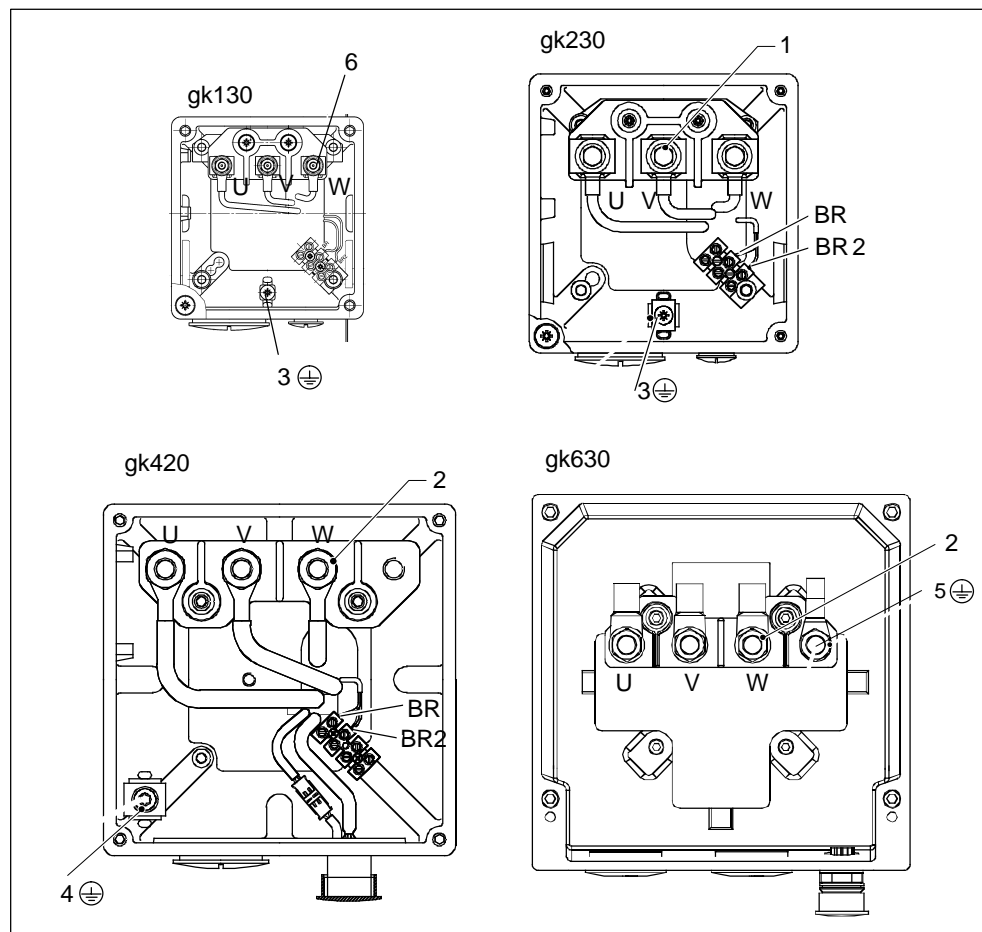

Fig. 1-2 Terminal assignment in the terminal boxes
- The terminal assignment in the terminal box must be implemented according to Fig. 1-2.
- An optional brake should be connected according to Fig. 1-2.
Table 1-18 Description, refer to Fig. 1-2